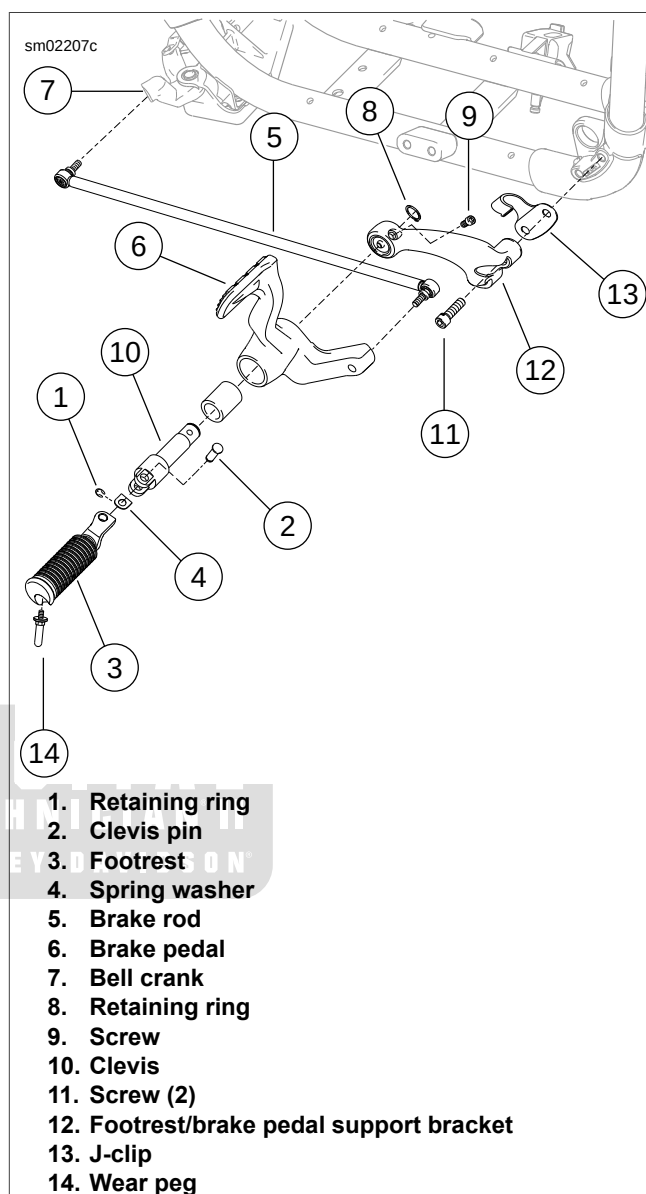

Figure 2-232. Brake Side Forward Controls
1. See Figure 2-232. Remove retaining ring (1), clevis pin (2), footrest (3) and spring washer (4). Discard retaining ring.
2. Remove brake rod (5) from brake pedal (6) and master cylinder bell crank (7).
3. Remove retaining ring (8), screw (9) and clevis (10). Slide brake pedal off clevis. Discard retaining ring.
4. Remove two screws (11), footrest/brake pedal support bracket (12) and J-clip (13) from frame.
1. See Figure 2-232. Position J-clip (13) against frame as shown. Mount footrest/brake pedal support bracket (12) and J-clip to frame with screws (11). Tighten to 45-50 ft-lbs (61-68 Nm).
2. Slide brake pedal (6) onto clevis (10). Mount clevis on footrest/brake pedal support bracket. Line up hole in clevis with hole in support bracket. Secure with screw (9). Tighten to 13-17 ft-lbs (17.6-23.0 Nm). Install **new** retaining ring (8) on end of clevis.
3. Install footrest (3) on clevis with spring washer (4). Make sure spring washer is positioned inside clevis with the square edge toward the inside. Align holes and push clevis pin (2) from top down through hole in clevis. Secure with **new** retaining ring (1).
6. Thread one end of brake rod (5) into master cylinder bell crank (7). Tighten to 120-180 in-lbs (13.6-20.4 Nm).